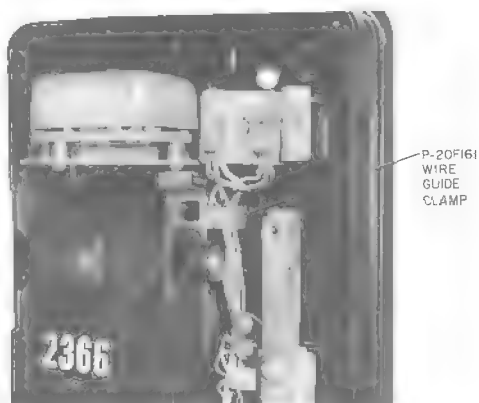

Fig. 25—Installation of Wire Guide Clamp
- (1) Install P-20F161 wire guide clamp (Fig. 25) on backplate. Ensure that wiring is routed as shown.